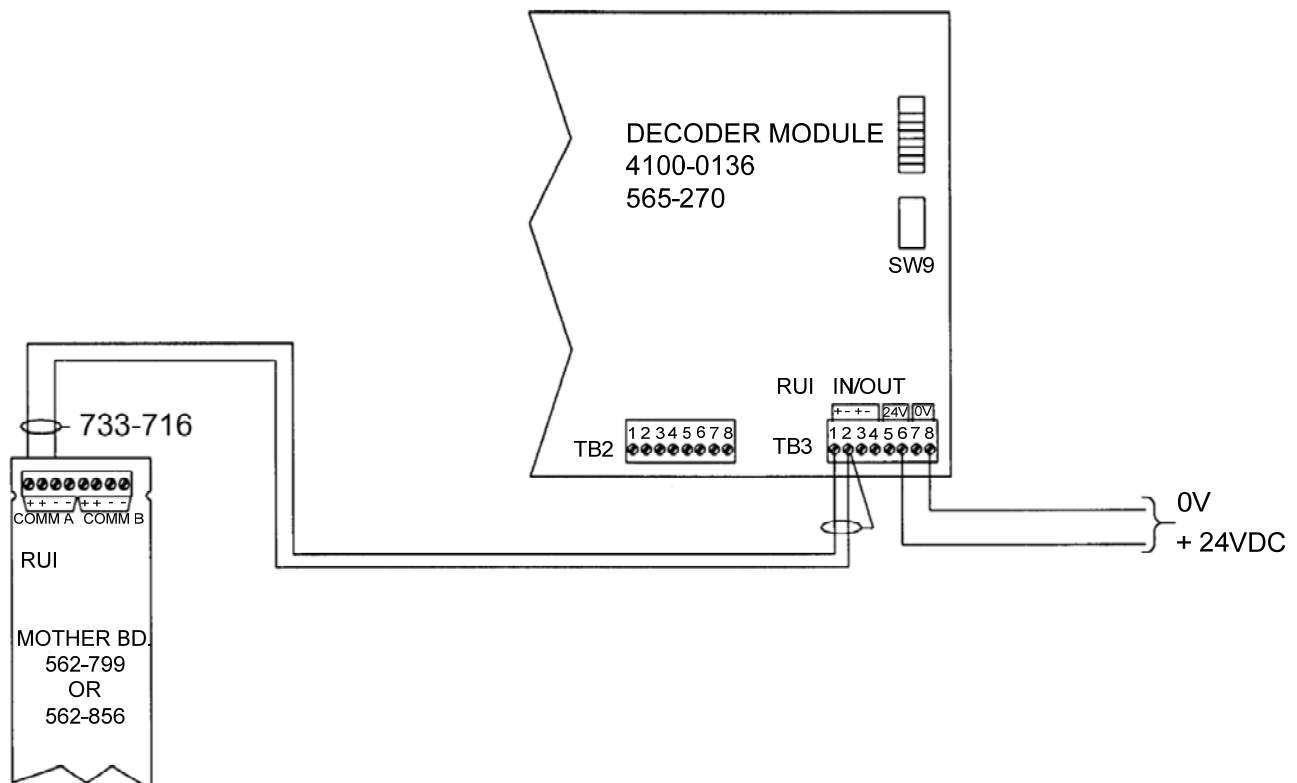

Figure 10. Decoder Module Wired RUI Style 4 (Class B)
2. Using the 733-716 Harness, connect to the “+” and “-“ RUI terminals as Figure 10 shows.
3. Complete the wiring connection as shown in Figure 10.